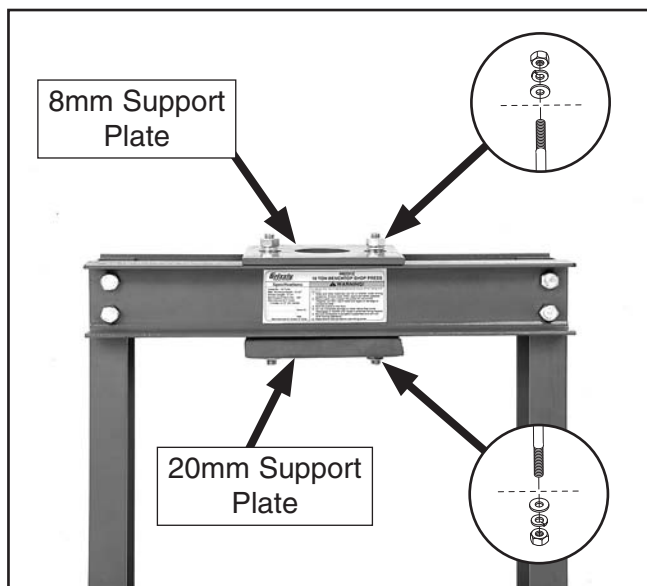

Figure 11. Support plate installation.
- Install the 8mm and 20mm thick support plates at the center upper U-beams, using a 19mm wrench and the two M12-1.75 studs, four 12mm flat washers, lock washers, and hex nuts as shown in **Figure 11**.